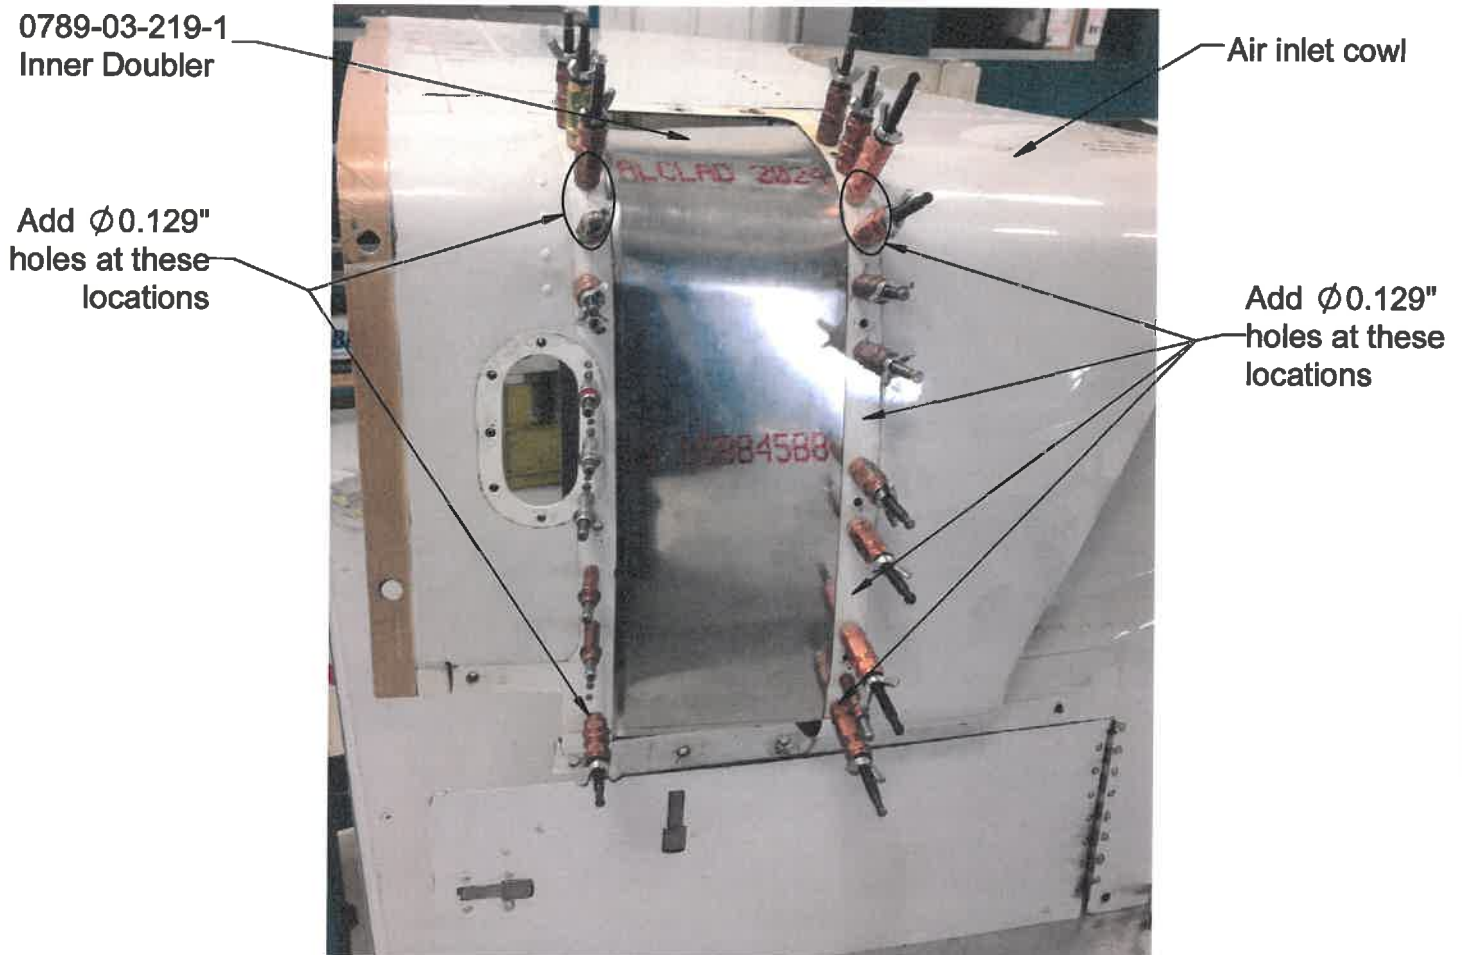

Figure 1: 0789-03-219-1 Inner Doubler Installation
3. Align 0789-03-219-1 Inner Doubler with inner face of cutout in the inlet cowl skin for best fit and maintain edge distance on all holes as shown in Figure 1.
4. Transfer drill existing $\phi 0.098"$, $\phi 0.129"$ and $\phi 0.194"$ holes from aircraft skin to 0789-03-219-1 Inner Doubler as shown in Figure 1.